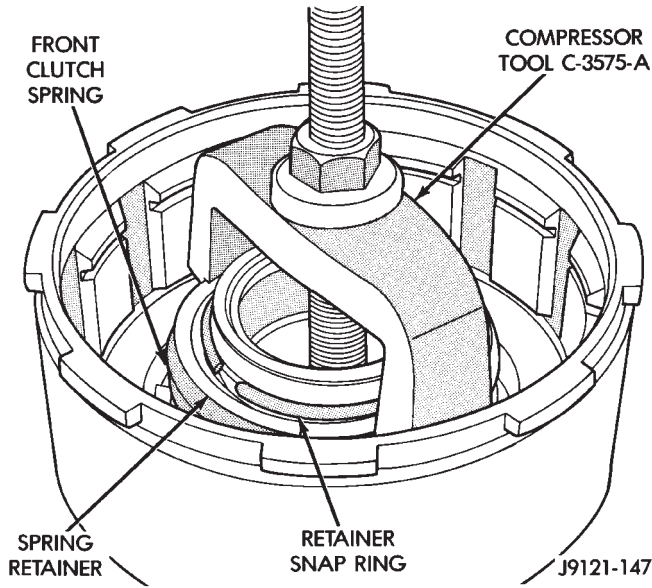

Fig. 135 Compressing Front Clutch Piston Spring
- (2) Compress clutch piston spring with Compressor Tool C-3575-A (Fig. 135). Be sure legs of tool are seated squarely on spring retainer before compressing spring.
- (3) Remove retainer snap ring and remove compressor tool.
- (4) Remove spring retainer and clutch spring. Note position of retainer on spring for assembly reference.
- (5) Remove clutch piston from clutch retainer. Remove piston by rotating it up and out of retainer.
- (6) Remove seals from clutch piston and clutch retainer hub. Discard both seals as they are not reusable.
- (7) Compress piston spring and retainer with Compressor Tool C-3575-A (Fig. 135). Then install new snap ring to secure spring retainer and spring.